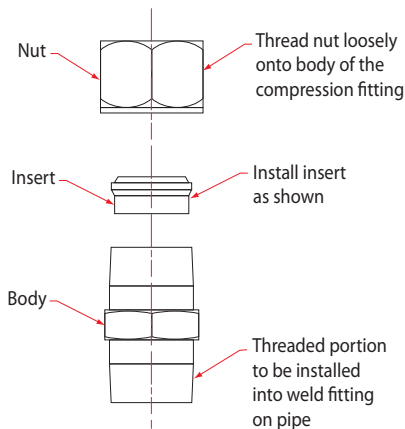

Figure 5: Compression fitting
6. Assemble the supplied compression fitting as diagrammed in Figure 5. Thread the assembled compression fitting into the thread-o-let manually. With a wrench, tighten the body of the fitting a further 1-1/4 turns taking care not to tighten the compression nut.